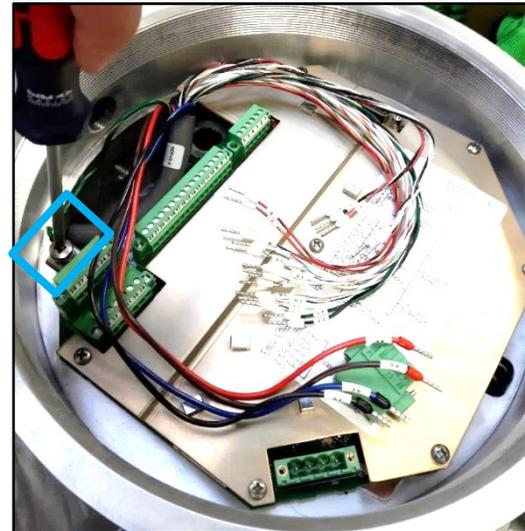

Figure 2-52. Ground Screw Placement Inside VariStroke
26. Screw the grounding screw and torque to **12 ±1 LBIN (16 ± 1 Nm)** (use Philips screwdriver; **PH2** tip size) (Figure 2-52).